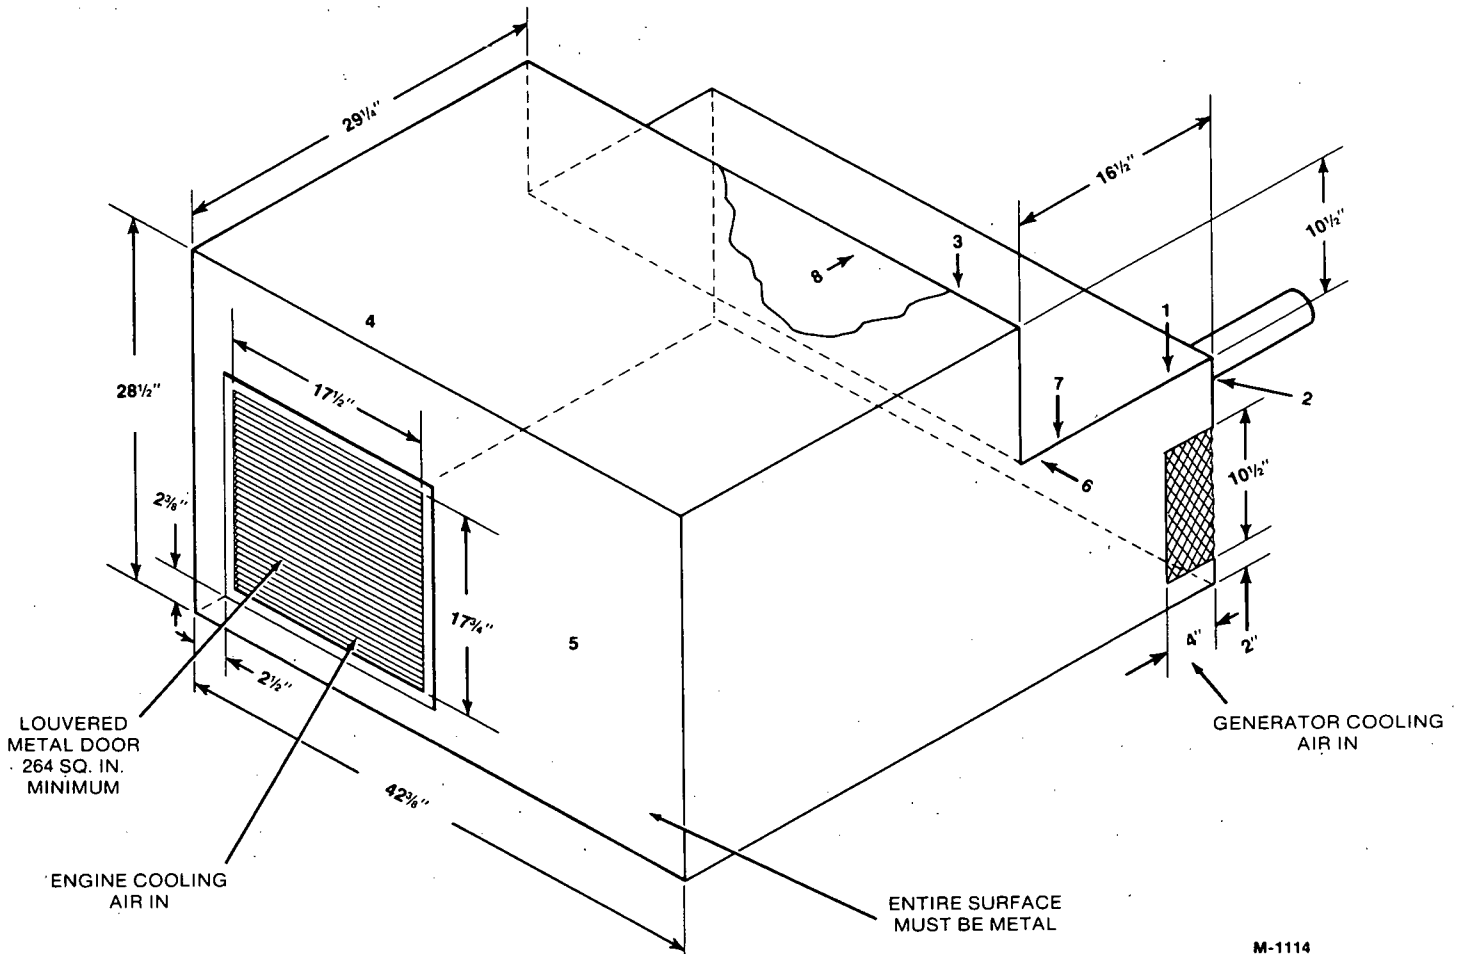

FIGURE 2. COMPARTMENT SIZE AND MINIMUM DIMENSIONS
The area in the vehicle for the electric generating set must be large enough for the compartment, with specified minimum clearance between the electric generating set and compartment walls or ceiling (and acoustical material, if used.) See Figure 2.
3. See Figure 2 for minimum clearances and compartment size.
Insulation must not reduce the minimum clearances as specified in Figure 2, to comply with temperature rise and safety requirements of recreational vehicles, to prevent fire hazard.
Insulation must not reduce the minimum clearances as specified in Figure 2 to comply with temperature rise and safety requirements for recreational vehicles to prevent fire hazard.